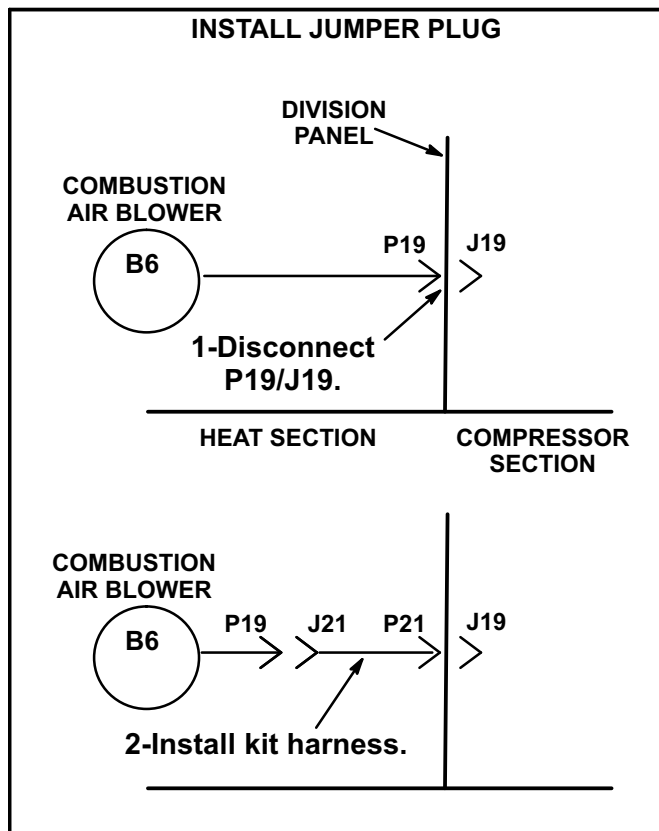

FIGURE 8
- 3- Install kit harness between disconnected plugs. See figure 8.